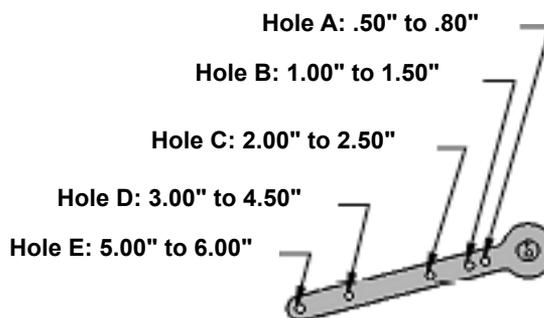

Figure 28 - Stroke Settings
3. Set rod-ends and brackets to stroke and size of actuator. The default setting is a 4.00" stroke. Other stroke settings are as in Figure 28.